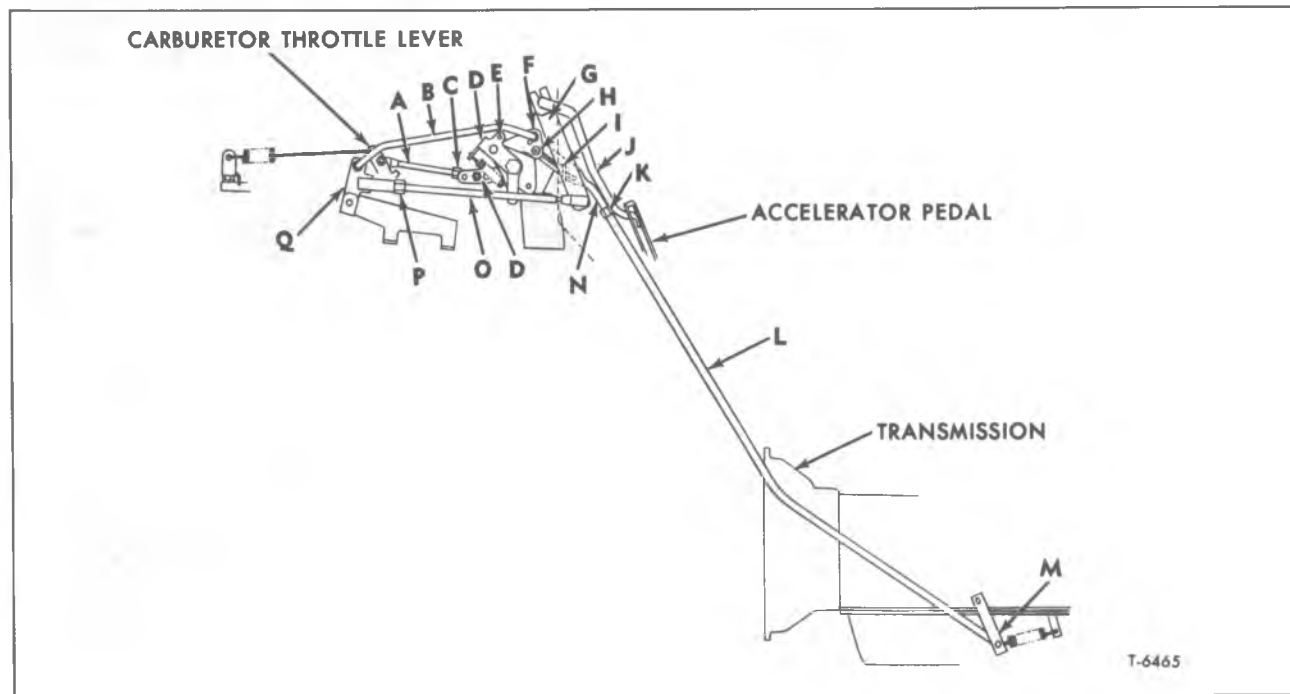
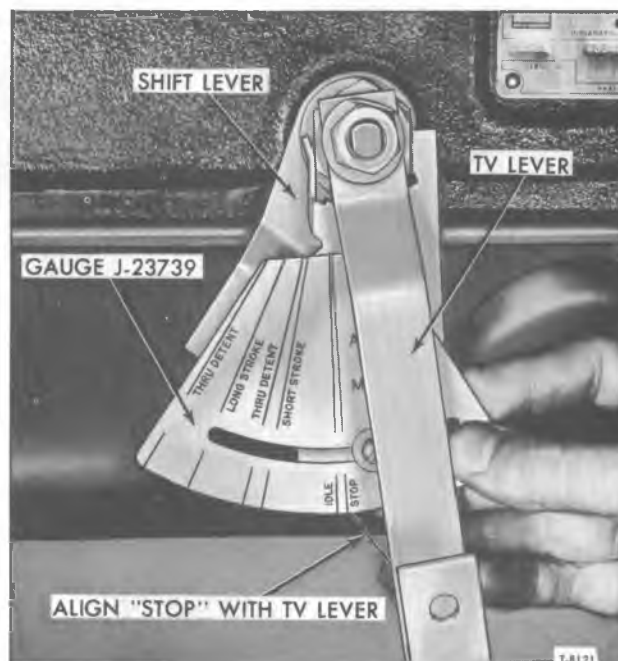
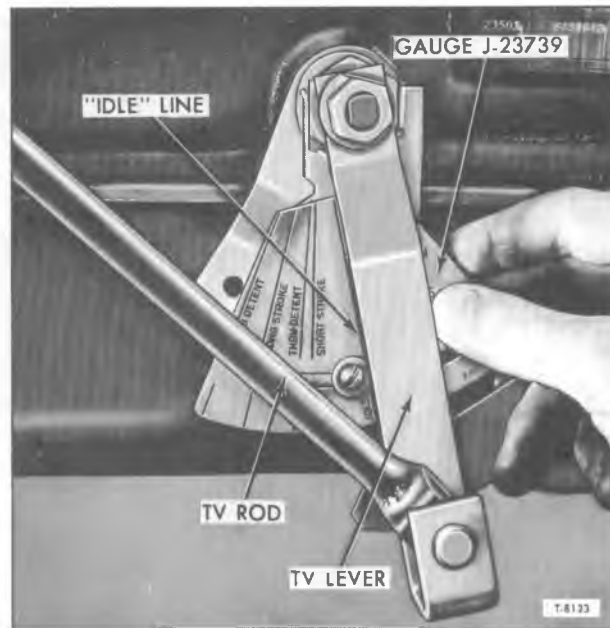
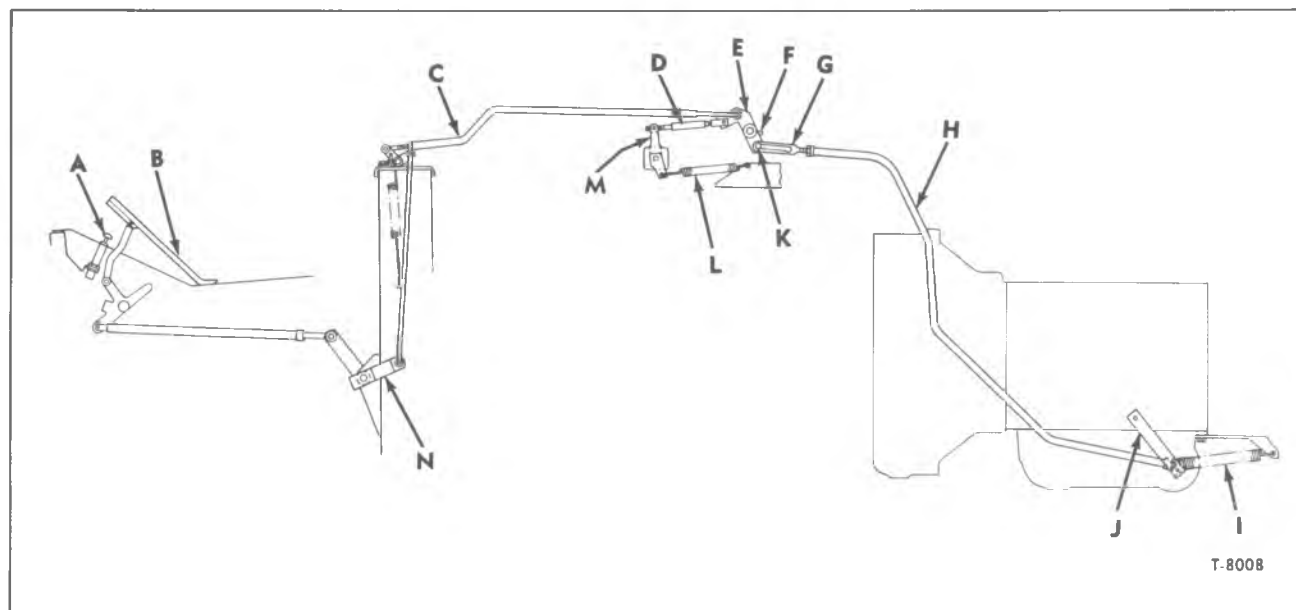

Figure 9—Accelerator and TV Linkage
Figure 10—Installing TV Linkage Adjustment Gauge
Figure 12—Position of TV Lever at Idle
Figure 14—Accelerator and TV Linkage (TG50)
3. Disconnect TV rod (L, fig. 9) from transmission TV lever. Also disconnect TV lever return spring from TV lever.
4. Referring to figure 9, perform the following:
a. Insert a  $\frac{1}{4}$ -inch diameter pin through hole (E) and into alignment slot of lever (F). With carburetor throttle lever held in "IDLE" position by the throttle return spring, adjust length of rod assembly (A) to provide free-entry into lever (D). Secure length of rod (A) by tightening nut (C).
b. Remove  $\frac{1}{4}$ " diameter pin from hole (E).
c. Disconnect rod assembly (O) from lever (Q).
d. Rotate lever (F) counterclockwise to downshift position (THRU-DETENT) and hold.
e. Have assistant depress accelerator pedal until pedal rod (J) contacts bumper (I).
f. Adjust length of rod assembly (O) to provide free-entry into lever (Q). Secure length of rod (O) by tightening nut (P).
5. Install gauge (J-23739) as shown in figure 10. Note that gauge is installed on manual selector nut.
8. Reconnect TV rod (L, fig. 9) to transmission TV lever (M).
9. With engine "OFF" and accelerator pedal at "IDLE" position, the forward edge of TV lever should be aligned with the "IDLE" line on gauge, as shown in figure 12. If necessary, shorten or lengthen TV rod to obtain alignment with gauge by performing the following:
a. Have assistant loosen retaining nut (K, fig. 9) holding slotted-rod (N) in position on TV rod (L).
b. Referring to figure 12, align TV lever with "IDLE" line on gauge and hold.
c. With accelerator linkage at "IDLE" position, have assistant position slotted-rod (N, fig. 9) so upper portion of slot contacts stud (H). Secure slotted-rod (N) to TV rod (L) by tightening nut (K). Recheck TV lever on transmission to be sure it is aligned with "IDLE" line on gauge (fig. 12).
12. Check TV linkage by having assistant depress accelerator pedal to pedal bumper (THRU-DETENT). Hold TV lever (M, fig. 9) in this position. When assistant releases the accelerator pedal, carburetor throttle lever and accelerator pedal must return freely to "IDLE" position. Connect TV lever return spring.
a. To raise shift point, shorten TV rod (L, fig. 9) by loosening nut (K), then reposition slotted-rod (N) as required. Tighten nut (K) against shoulder of rod (L).
b. To lower shift point, lengthen rod (L) in the same manner as preceding step.
3. Disconnect TV rod (H, fig. 14) from TV lever (J). Also disconnect TV lever return spring from TV lever.
4. Referring to figure 14, perform the following:
a. With cab tilted, position lever (E) 0.060-inch, using feeler gauge, from stop (F) and adjust swivel on link assembly (D) to provide free-entry of link assembly (D) into levers (E) and (M).
b. Adjustment of the detent button (A) is accomplished by relocating the two jam nuts (located on detent button assembly). Return cab to normal ride height. With the accelerator pedal (B) depressed to THRU-DETENT (detent button - compressed), ample clearance must exist between the pedal and cab floor to assure complete movement of the TV linkage to the THRU-DETENT position.
c. With accelerator pedal just touching detent button (A) the injection pump control lever (M) should be in the full throttle position. If adjustment is required shorten or lengthen rod (C) as necessary. Note link assembly (D) must not be extended when performing this step.
5. Install gauge (J-23739) as shown in figure 10. Note gauge is installed on manual selector nut.
8. Reconnect TV rod (H, fig. 14) to transmission TV lever (J).
- With cab tilted, have assistant loosen retaining nut holding slotted-rod (G) in position on TV rod (H).
- Referring to figure 12, align TV lever with "IDLE" line on gauge and hold.
have assistant position slotted-rod (G, fig. 14) so upper portion of slot contacts stud (K). Secure slotted-rod (G) to TV rod (H) by tightening retaining nut. Recheck TV lever on transmission to be sure it is aligned with "IDLE" line on gauge (fig. 12).
12. Check TV linkage by having assistant depress accelerator pedal until detent button (A, fig. 14) is compressed (THRU-DETENT position). Hold TV lever (J) in this position. When assistant releases accelerator pedal, injection pump control lever (M) and accelerator pedal must return freely
a. To raise shift point, shorten TV rod (H, fig. 14) by loosening retaining nut holding slotted-rod (G) to TV rod (H). Reposition slotted-rod as required. Tighten retaining nut against shoulder for rod (H).
b. To lower shift point, lengthen rod (H) in the same manner as preceding step.